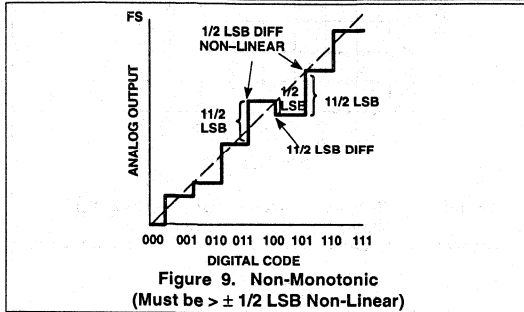

Figure 9. Non-Monotonic (Must be  $> \pm 1/2$  LSB Non-Linear)
**Differential Non-Linearity** – Incremental error from any ideal LSB analog output change when the digital input is changed 1 LSB (See Figure 9).
**Monotonicity** – As the input code is incremented from one code to the next in sequence, the analog output will either increase or remain constant (See Figure 9).